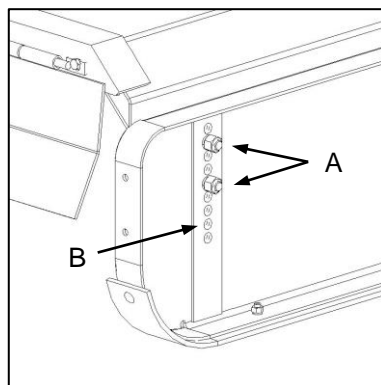

Fig. 3
- ✔ To set working height, remove the side panel retaining nuts (Fig. 3-A) and relocate the side panel position by selecting an appropriate hole position (Fig. 3-B). Ensure the implement is level by selecting similar hole positions at each adjustment point.
- ✔ Om die werkshoogte te verstel, verwyder die sypaneel klemmoere (Fig. 3-A) en verskuif die sypaneel posisie deur die gesiklike gat posisie te kies (Fig. 3-B). Maak seker dat die implement gelyk is deur soortgelyke gat posisies by elke verstelpunt te kies.